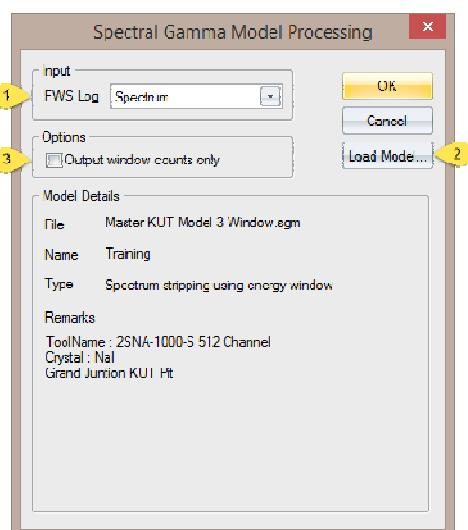

Figure 8 - Windows Stripping dialog box
When clicking on the **Windows Stripping** option in the **Process>Common>Total & Spectral Gamma** menu a simple dialog box opens (**figure 8**). The only options provided are the selection of the input spectra (1) from a FWS log, the loading of a calibration model (2) and the option to output window counts only (3).